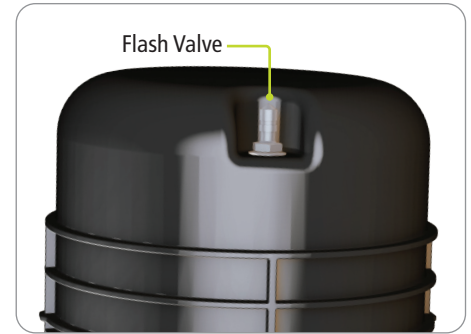

Figure 55
1. Apply 5 PSI of air to the flash valve on dome. (Figure 55)